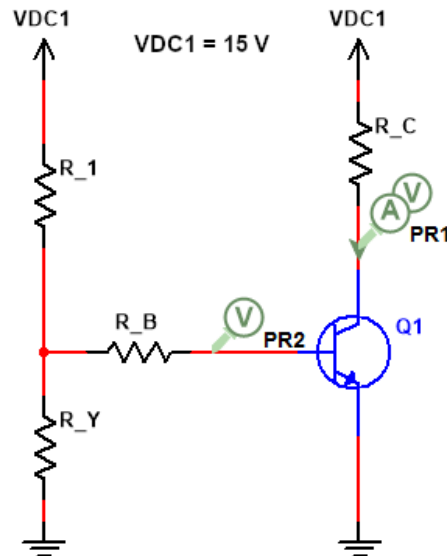

Figure 10: Test Circuit for Part 2
1. Determine appropriate values of R_1 , R_B and R_C for Figure 10 (use decade multiples of 1.0, 1.2, 1.5, 1.8, 2.2, 2.7, 3.3, 3.9, 4.7, 5.6, 6.8, and 8.2 k Ω . As an example, if your R_1 is 124.6 k Ω , you will round this to 120 k Ω or 150 k Ω). You will need to justify the choices for your resistor values in your report with good reasons.
The circuit is already assembled for you on Nagui's website, you should follow the link, open up part2.circuit.figure10.ms14, and run a Parameter Sweep for R.C. Instructions on how to set up and perform the Parameter Sweep can be found in the Parameter Sweep section below.
With the circuit is built to match Figure 10 using your calculated resistor values add a voltage and current probe to the collector of the BJT to measure I_C and V_{CE} . Add an additional voltage probe to the base to measure V_{BE} . Probes can be placed by selecting **Place** → **Probe** and selecting the appropriate one.